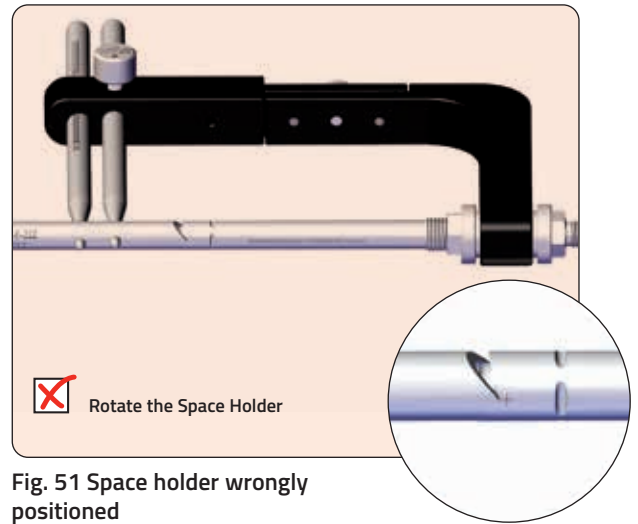

Fig. 51 Space holder wrongly positioned
1. The marking "THIS SIDE UP" on the Space Holder is not facing upwards and the connection between drill guide assembly and Fitbone is loose. (Fig. 51)